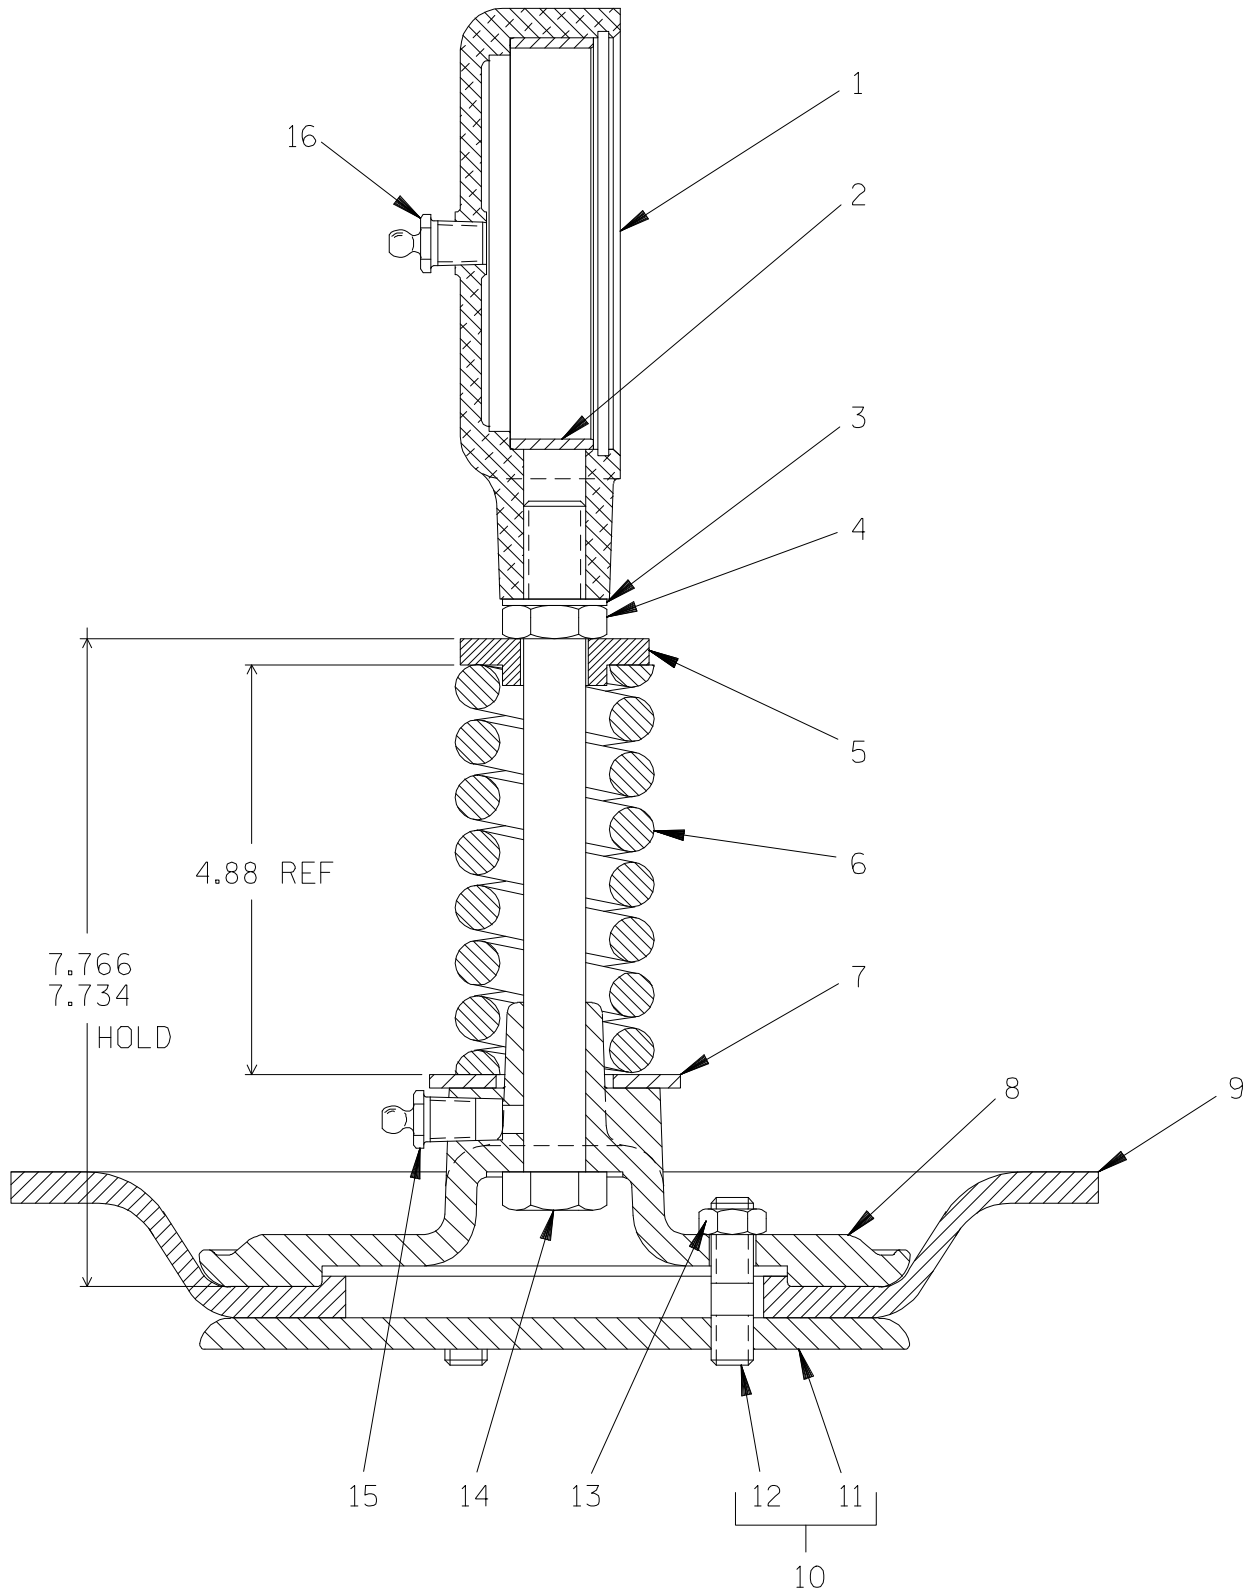

Figure 3. STANDARD 5685 AND OPTIONAL 5685B Plunger Rod Assembly
To remove the diaphragm (9, Figure 3), disengage the hardware (32, 33 and 34) and remove the diaphragm pot assembly (35). Inspect the diaphragm ring (36) for wear or damage. If replacement is required, the gearbox assembly (8) must be removed.
(Figure 3)